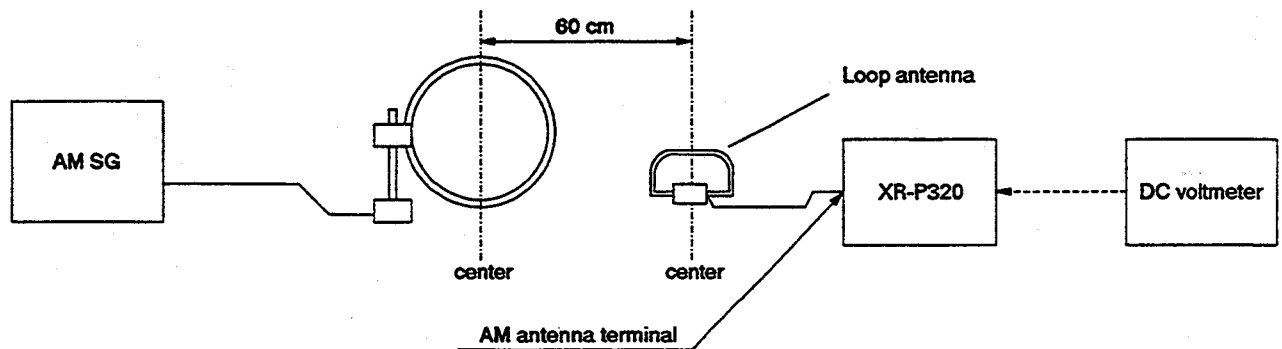

Fig. 6-2. AM Adjustment Connection Diagram
- Connect as shown in Fig. 6-2.